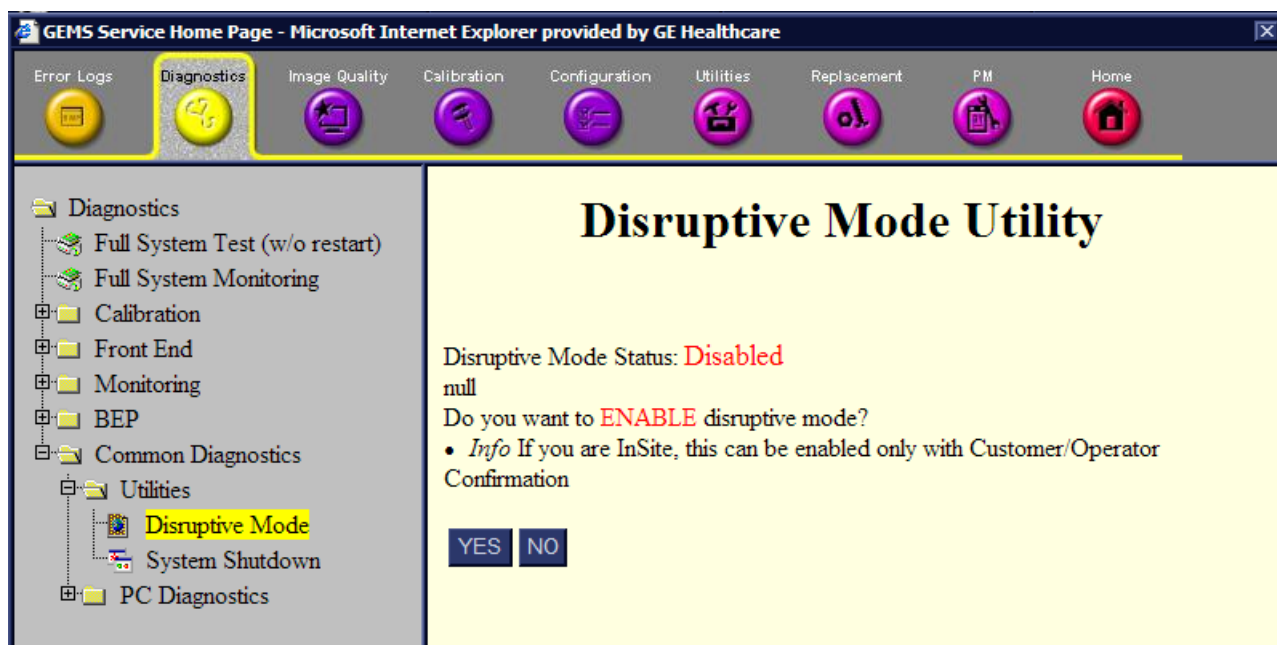

Figure 7-122 Request for Disruptive Mode
- **Disruptive Mode** - when the OLC or field engineer requests the user to invoke the Disruptive mode, the user will be asked to confirm Disruptive Mode by clicking the Yes button, as shown in Figure 7-122. Disruptive mode enables the OLC or field engineer to take control of the system for problem-solving purposes.